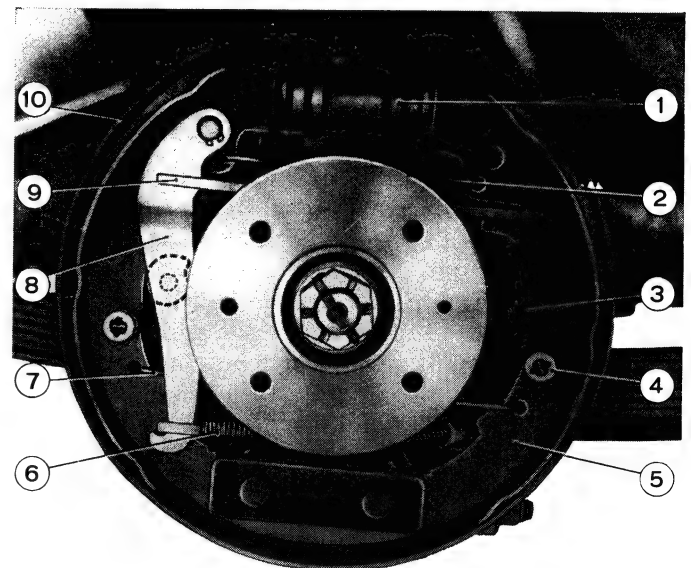
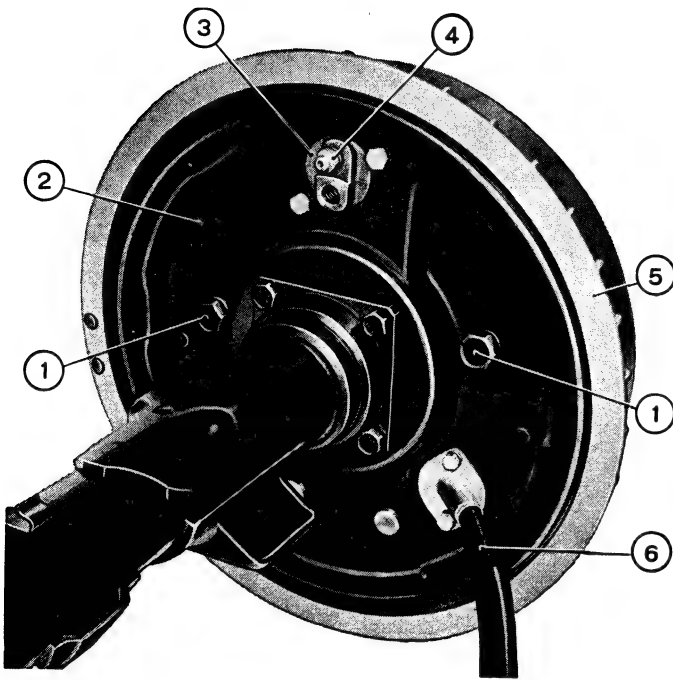

Fig. 180. - Right rear wheel brake backing plate assembly (1500 Cabriolet).
Fig. 181. - Close-up view of left-hand rear wheel brake backing plate (1500 Cabriolet).
- With the shoes spreaded, turn the outer nuts (1, fig. 181) of the adjusting cams (3, fig. 180) so that these are brought in touch with the shoes; release the brake pedal and rotate nuts in opposite direction until a **.0039" to .0059" (0.10 to 0.15 mm) brake shoe-to-drum clearance** is obtained. To check clearance, thread a feeler stock through slots machined on drum outside.